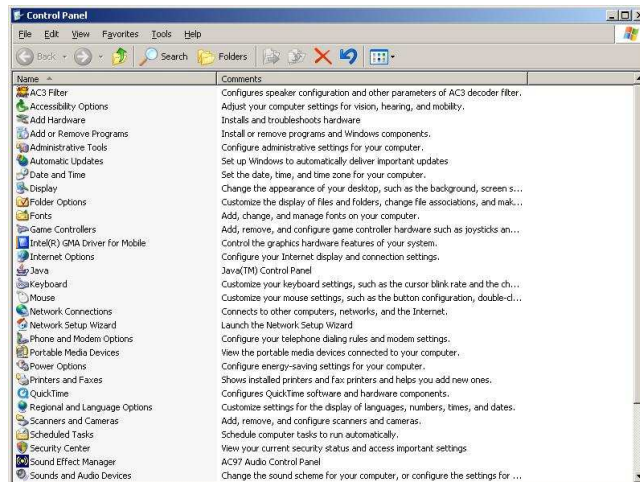

Figure 20: Control Panel
2. Double click on Control Panel, obtaining a screen like figure 20.